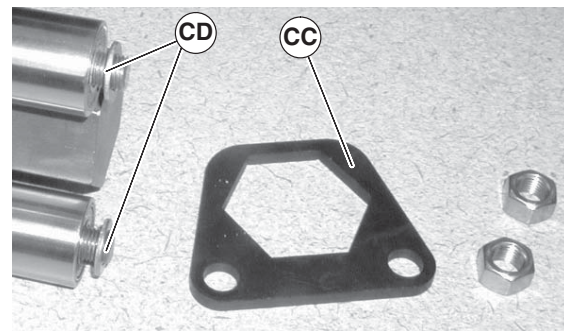

Figure 59
6. Remove support plates (Figure 59, item CC) and washers (CD).